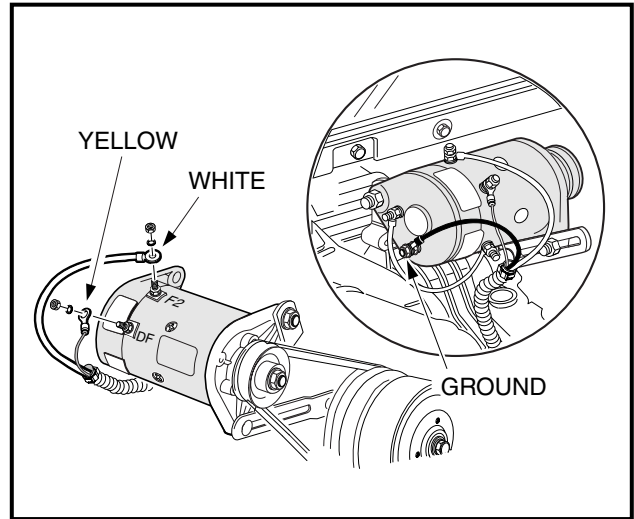

Figure 16-51 Starter/Generator
26. Connect the 6-gauge white wire to the F2 post and the 6-gauge black ground wire to the A2 post of the starter generator and tighten to 48 in-lb (5.4 N·m). Connect the 16-gauge yellow wire to the DF post and tighten to 30 in-lb (3.4 N·m) (**Figure 16-51, Page 16-21**).